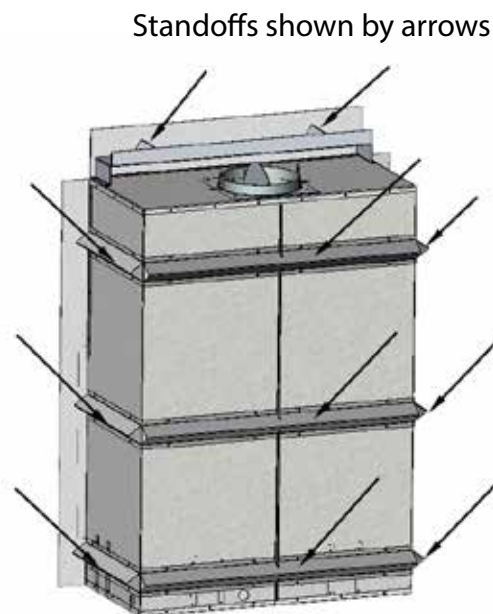
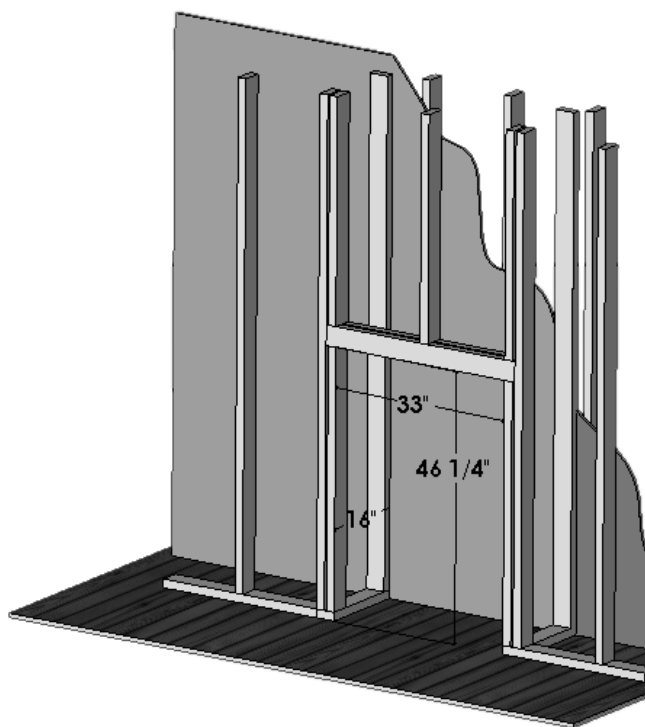

Figure 2
Figure 7
- Combustible materials must **not** be located inside the areas defined by the standoffs in Figure 2. Also see Figure 7 in the **FRAMING** section.
Figure 7 shows the minimum chase opening of 33" wide, 46 1/4" high and 16" deep.